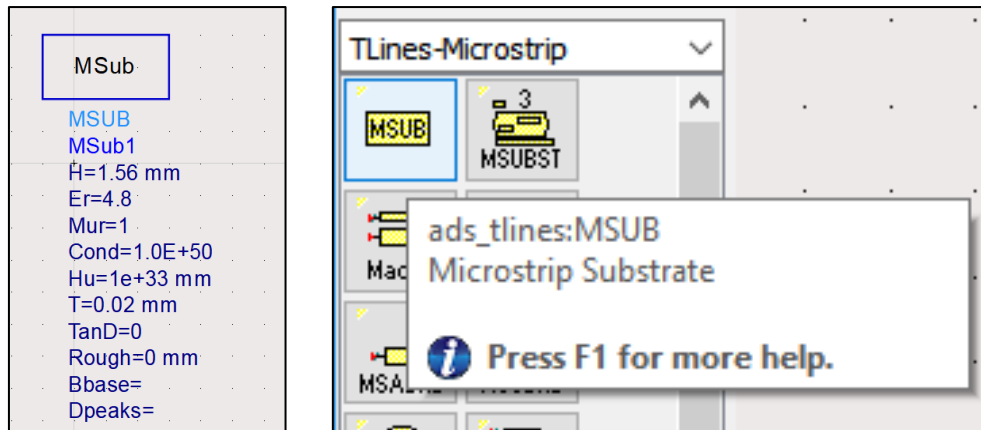

Figure 4: Substrate tool in ADS
2. **Defining Substrate:** To create the microstrip substrate, we must define the parameters of the substrate that the microstrip line is on, such as permittivity, loss tangent, thickness among others. It can be found in the **TLines-Microstrip** library as shown in Fig. 4. Click 'MSUB' icon, a window will pop up asking for layout resolution, choose millimetres layout. Set the following parameters: